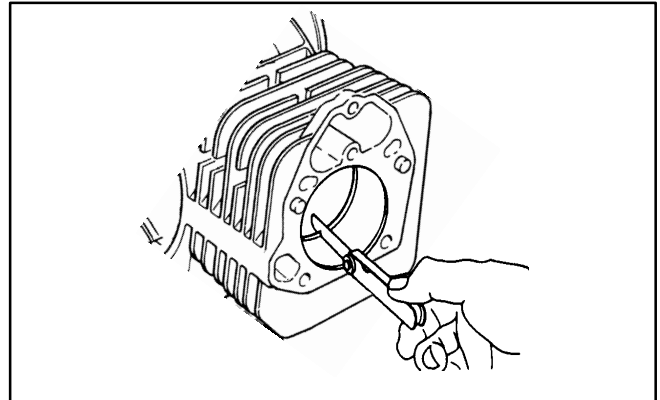

FIGURE 10-27. MEASURING RING GAP
2. Measure ring gap (Figure 10-27).